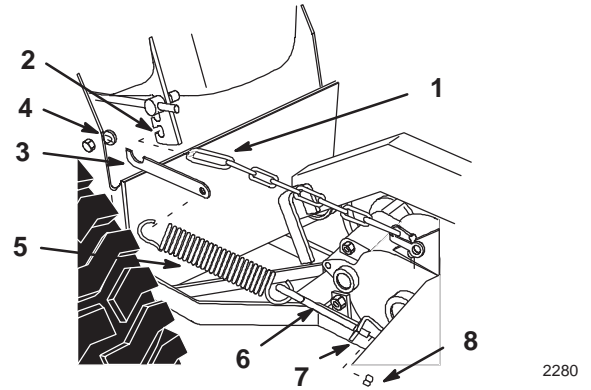

Figure 17
5. Slide long link of lift chain under attachment lift arm and hook into lower notch (Fig. 17).
7. Hook spring catch over rear tractor frame and under bolt spacer (Fig. 17). Hook lift assist spring through spring catch and eye bolt and install eye bolt to bracket with 3/8 in. lock nut (Fig. 17). Adjust lock nut so there is light spring tension in the fully raised position.